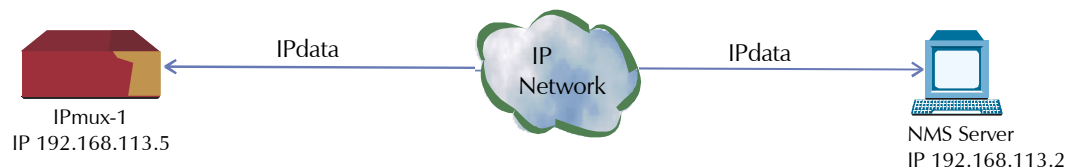

Figure D-1. TFTP Downloading Procedure
- Users who access a MIB browser – the TFTP downloading procedure is illustrated in *Figure D-1*.